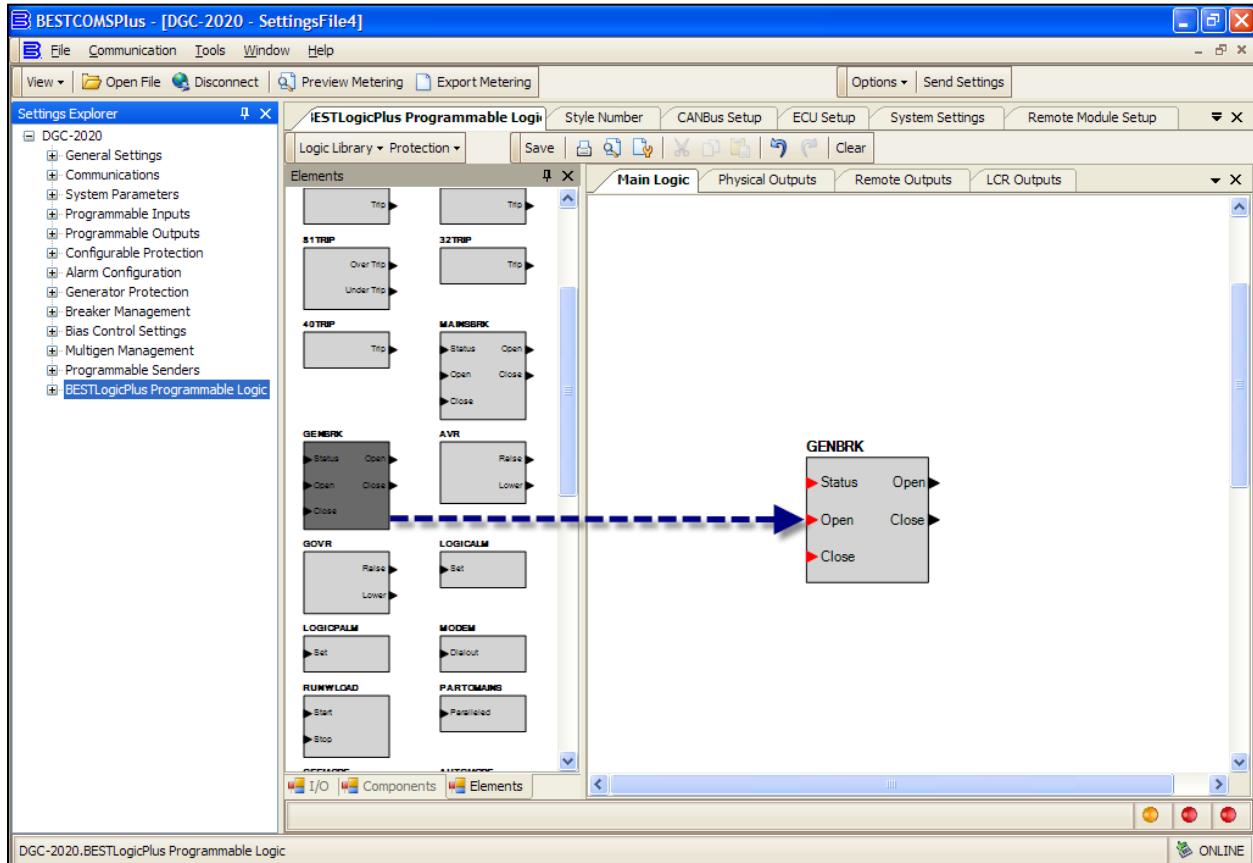

Figure 6-68. Settings Explorer, BESTLogicPlus Programmable Logic (Step 12)
12. Set up programmable logic to allow the DGC-2020 to synchronize the generator and close the generator breaker. In the BESTLogicPlus Programmable Logic, click on the *Elements* tab and drag the Gen Breaker element into your main logic. See Figure 6-68.